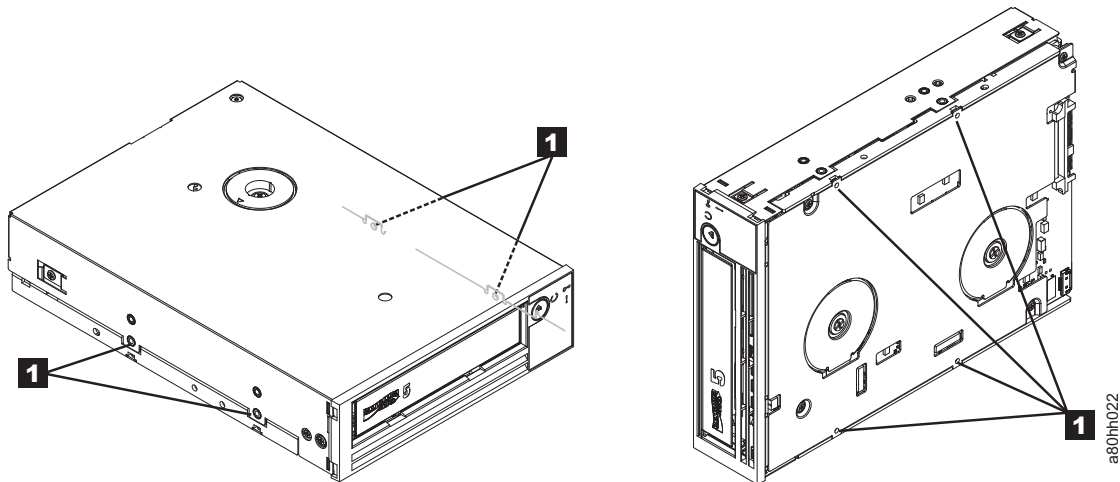

Figure 35. Removing the bezel and the cover from the internal drive
- 1) Remove the four cover-mounting screws ( **1** in Figure 35 on page 88). Two screws are on each side of the drive.